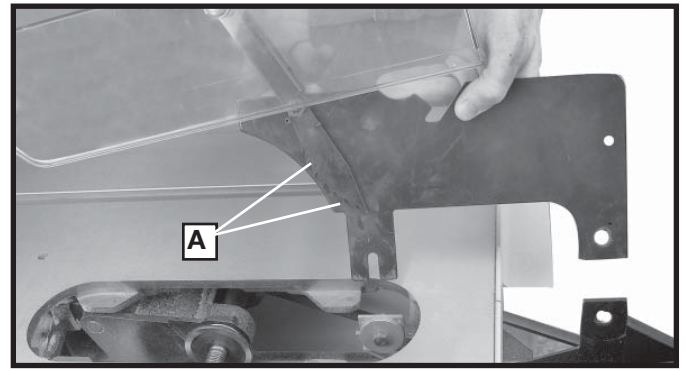

Fig. S1
⚠ WARNING THE BLADE GUARD ASSEMBLY PROVIDED WITH DELTA SAWS, AS SHOWN IN FIG. S1 MUST BE USED FOR ALL THROUGH-SAWING OPERATIONS. The splitter prevents the kerf from closing and binding the blade, causing kickback. The anti-kickback pawls (A) Fig. S1 prevent the workpiece and cut-off piece from being thrown back at the operator. The plastic guard prevents dust and debris from being thrown at the operator. To use the guard properly: